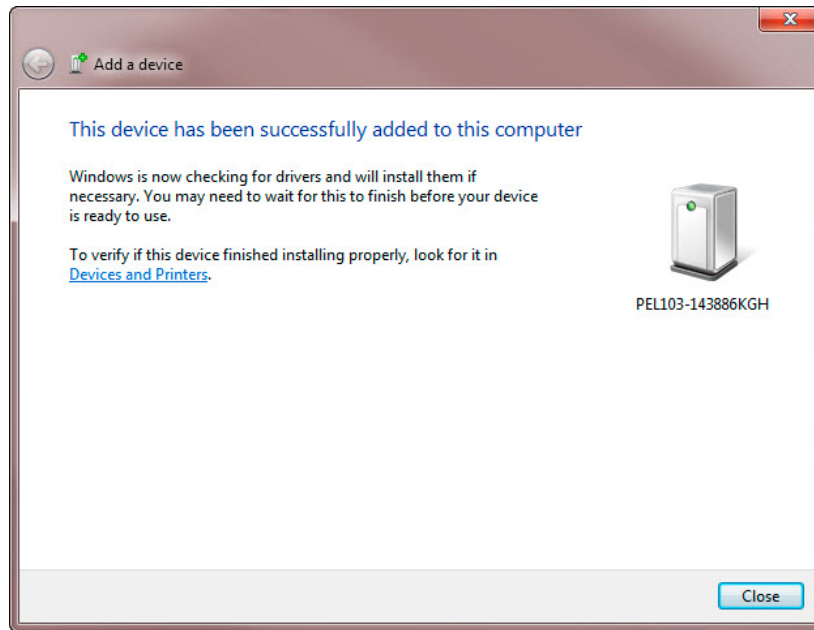

Figure 11
5. Once the instrument has been successfully added to the computer, a window similar to Figure 11 will be displayed. Select **“Close”**.